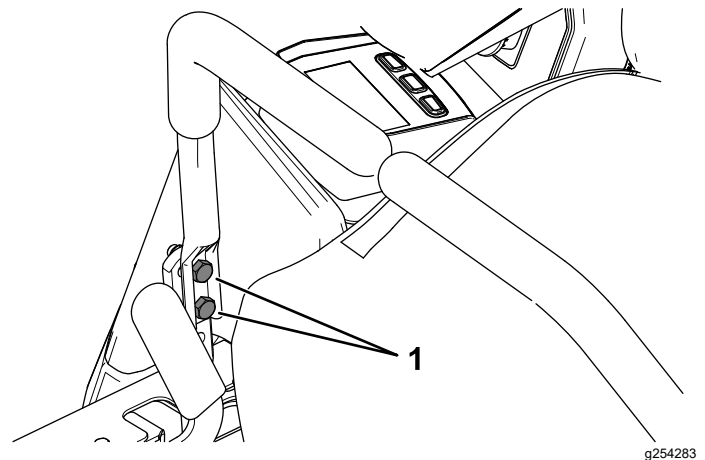

Figure 54
8. If alignment is needed, loosen the 2 motion-control lever mounting bolts on the misaligned side (Figure 54).
10. Tighten the 2 motion-control lever mounting bolts (Figure 54).